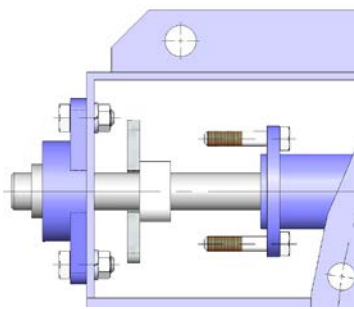

fig. 12
4. Extract the packing gland bushing (7) from its location, moving it along the shaft for free access to the packing strips (6) (fig. 12).